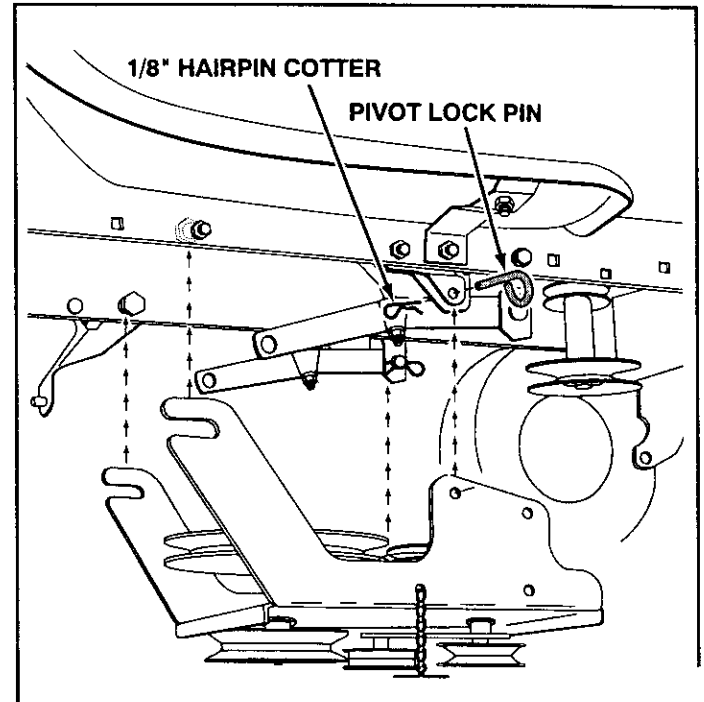

FIGURE 21 RIGHT SIDE VIEW
- Attach the clutch/idler assembly to the tractor frame by sliding the notched rear arms of the assembly onto the two shoulder bolts placed on the inside of the tractor frame. Lift the front of the assembly so that the sides fit inside the R.H. and L.H. hanger brackets. Attach the assembly to the brackets using two pivot lock pins and 1/8" hairpin cotters. See figure 21.